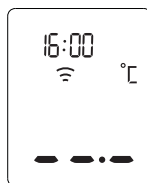

Figure 4
3. Press the **⏻** BUTTON to turn on the thermometer, you can take the object temperature after hearing two beep sounds. (see figure 4)